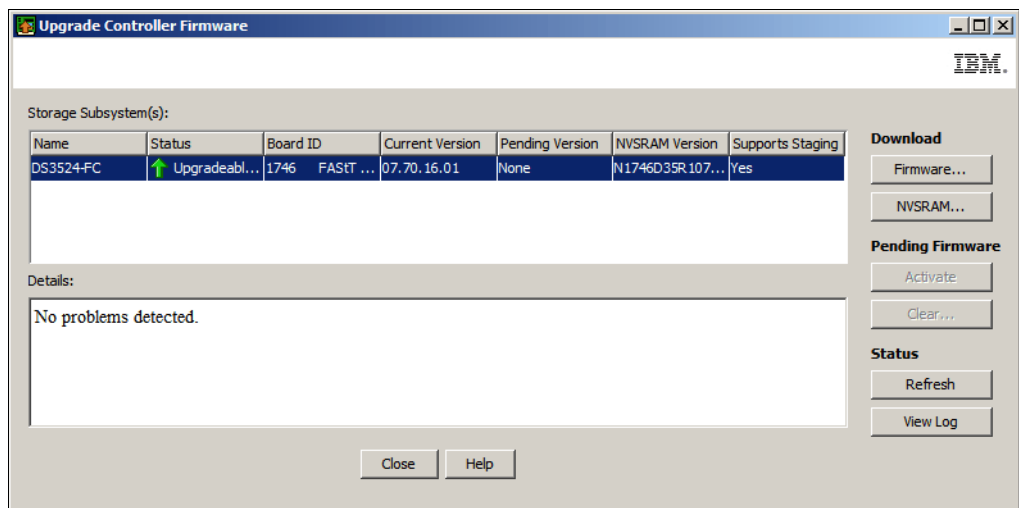
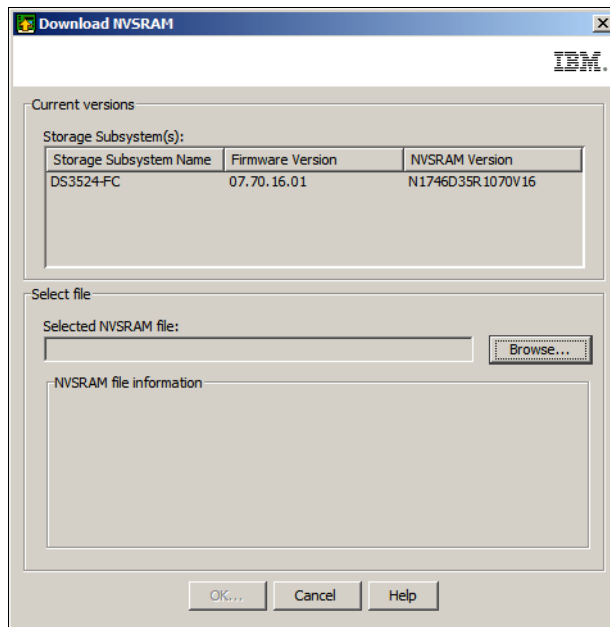

Figure 14-55 Status after pending firmware has been cleared
Figure 14-56 Download NVSRAM
- d. The **Upgrade Controller Firmware** window reports the status shown in Figure 14-55 after the firmware has been cleared.
- Click the **NVSRAM** button in Figure 14-55 on page 366. The **Download NVSRAM** window appears as shown in Figure 14-56.